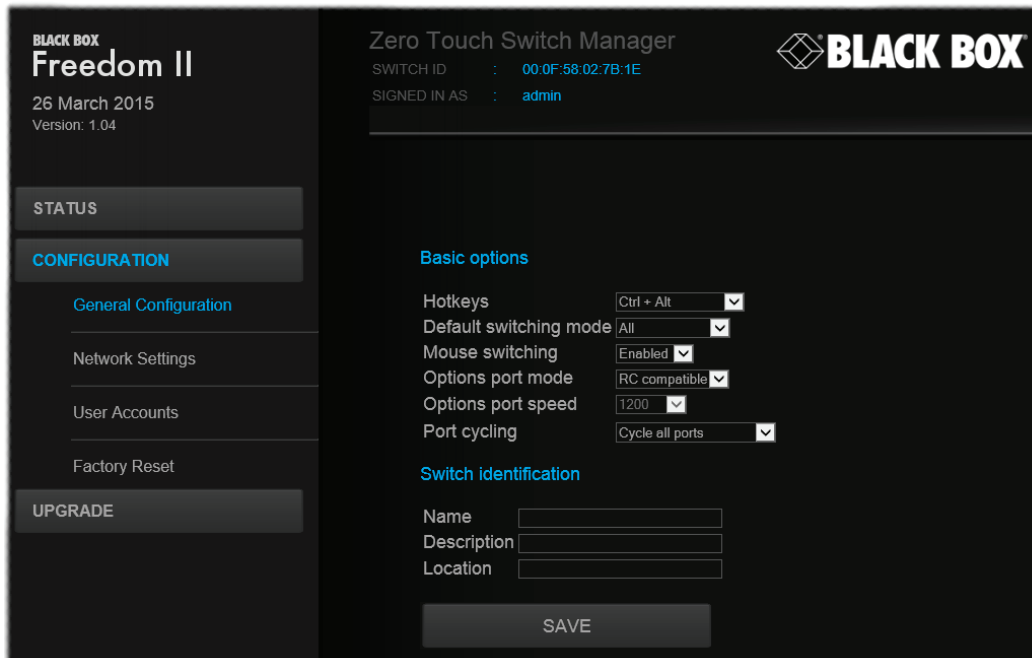

Figure 4-3. The General configuration page
2. On the left side, click the **Configuration** button. See Figure 4-3.